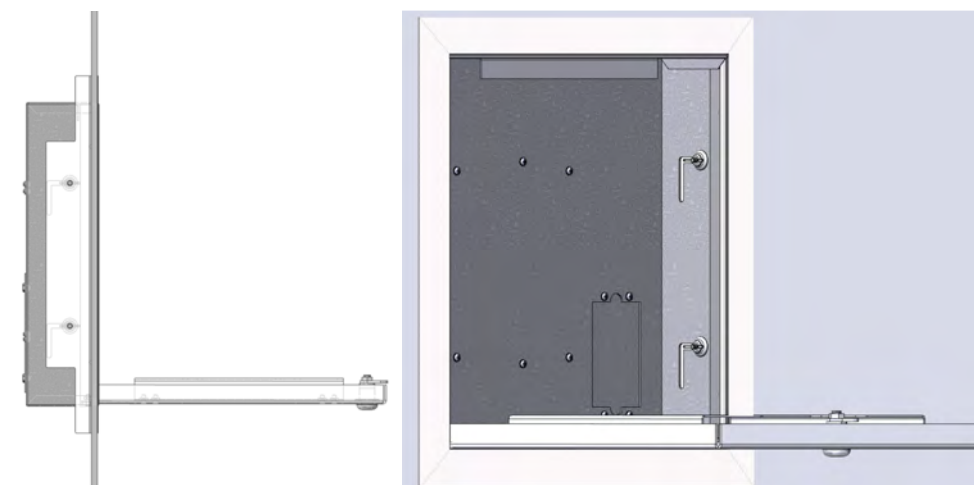

Figure 4 - Locked Position
**Step 4** – Once the enclosure is flush with the wall or ceiling, slide the wall bridges in the L-slot, and draw the bridges against the wall. Tighten the wing nuts one side at a time (ref. Figure 4). At this point, the enclosure is ready to be "mudded" into the wall. Additional material may be needed.